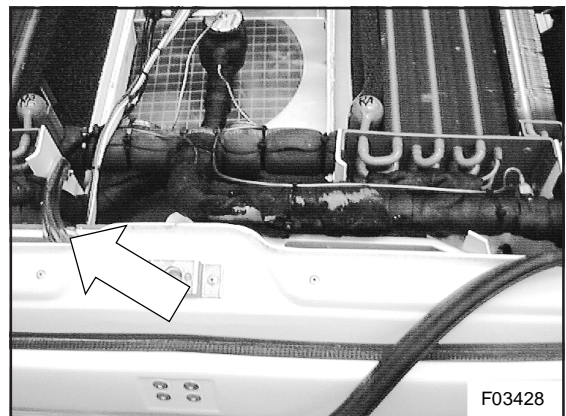

Figure 4: Location of fresh air flap actuating valve lines
6. With a jabsaw and a round rasp, make a vertical slot in the GRP airduct reinforcement plate, allowing the fresh air flap actuating valve lines to be lowered (see figure 4).